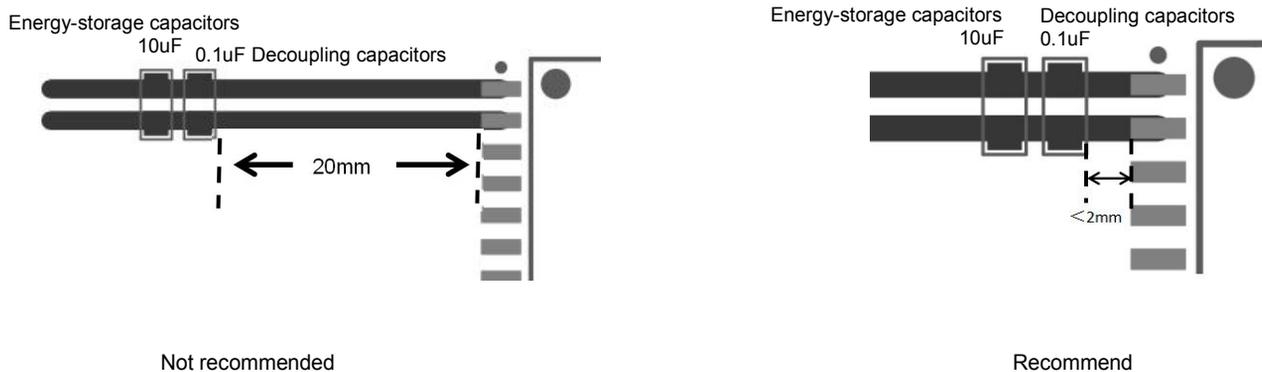

Figure 23-1
1. The decoupling capacitors and energy storage capacitors of VCC and GND1, VISO and GND2 should be placed as close to the chip pins as possible to reduce the loop area and parasitic inductance of PCB wiring. Generally, it should be controlled within 2mm. The decoupling capacitor is placed near the chip, and the energy storage capacitor is placed on the outside. As shown in Figure 23-1.